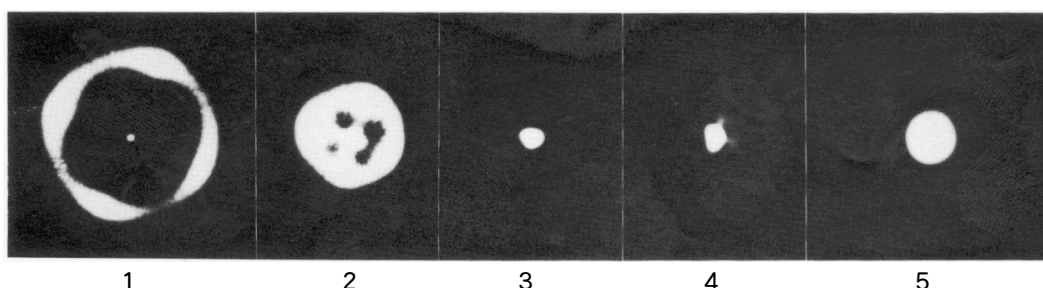
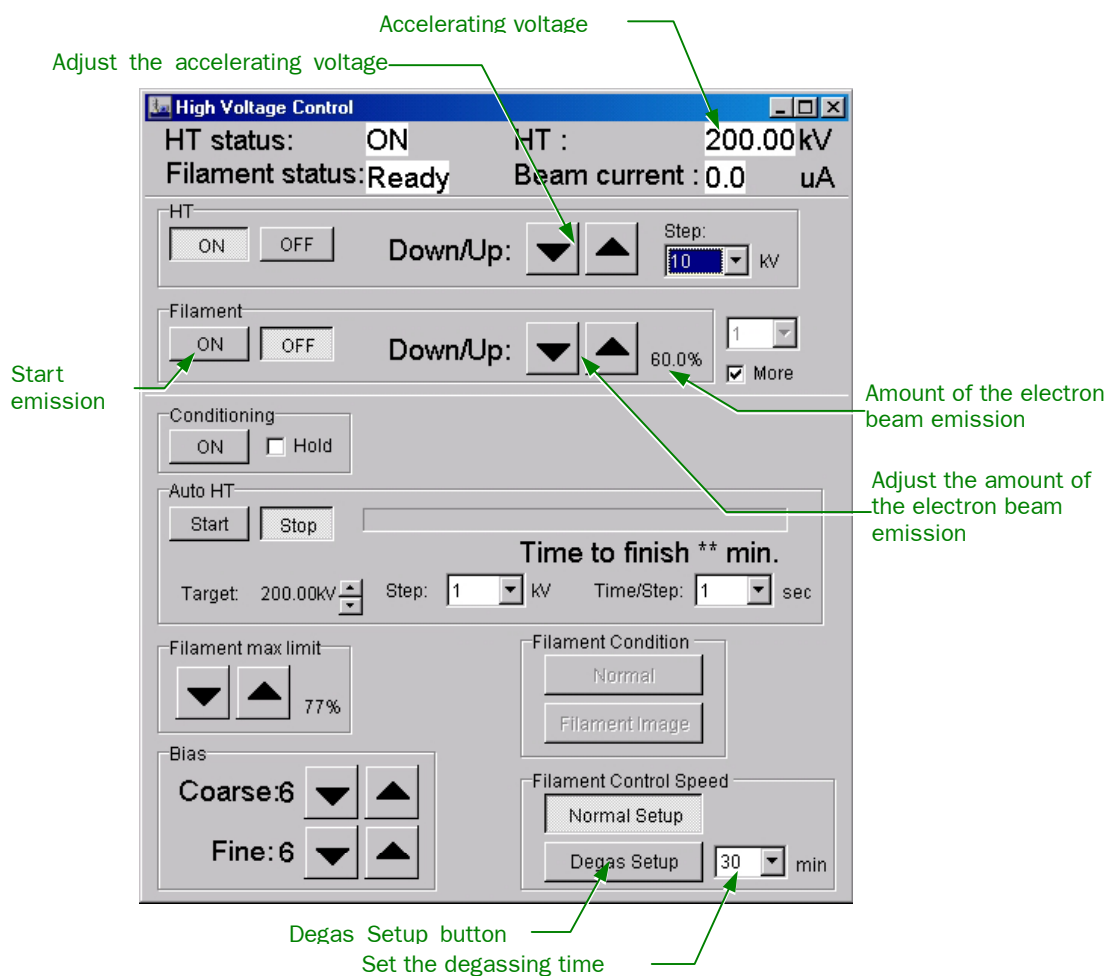

Fig. 6.12 Change of the beam image depending on the Coarse value in Bias
Fig. 6.13 Degassing the filament (High Voltage Control window)
1. Set the accelerating voltage to 0 kV using the ▼ button in the HT box in the **High Voltage Control** window (Fig. 6.13).
2. Set the amount of the electron beam to 60 to 70% using the ▼ and ▲ buttons in the Filament box in the **High Voltage Control** window (Fig. 6.13).
3. Click on the **Degas Setup** button in the Filament Control Speed box in the **High Voltage Control** window to turn it on (Fig. 6.13).
4. Select the degassing time from the list box beside the **Degas Setup** button in the Filament Control Speed box in the **High Voltage Control** window (Fig. 6.13).
5. Click on the **ON** button in the Filament box in the **High Voltage Control** window (Fig. 6.13).
8. Click on the **OFF** button in the Filament box in the **High Voltage Control** window to turn it off (Fig. 6.13).
10. Set the Coarse to 9 in the Bias box in the **High Voltage Control** window (Fig. 6.13).
12. Click on the **Gun** button in the DEF Select box in the **Alignment Panel for Maintenance** to turn it on, and project the electron beam on the fluorescent screen using the SHIFT X and Y knobs (L1-⑧, R1-③).
14. Gradually reduce the Coarse value in the Bias box in the **High Voltage Control** window to bows the cross over so that the beam image changes like Photos 1 to 2 in Fig. 6.12.
15. Reduce the Coarse value in the Bias box in the **High Voltage Control** window so that the beam image looks like Photo 3 in Fig. 6.12.
16. Gradually increase the amount of the electron beam using the ▲ button in the Filament box so that the beam image changes like Photos 3→4→5 or Photos 3→5 in Fig. 6.12, until it reaches the saturation position.
✍ Normally, when the values in the **High Voltage Control** window are as follows, you will obtain the beam image like that in Photo 5 in Fig. 6.12.